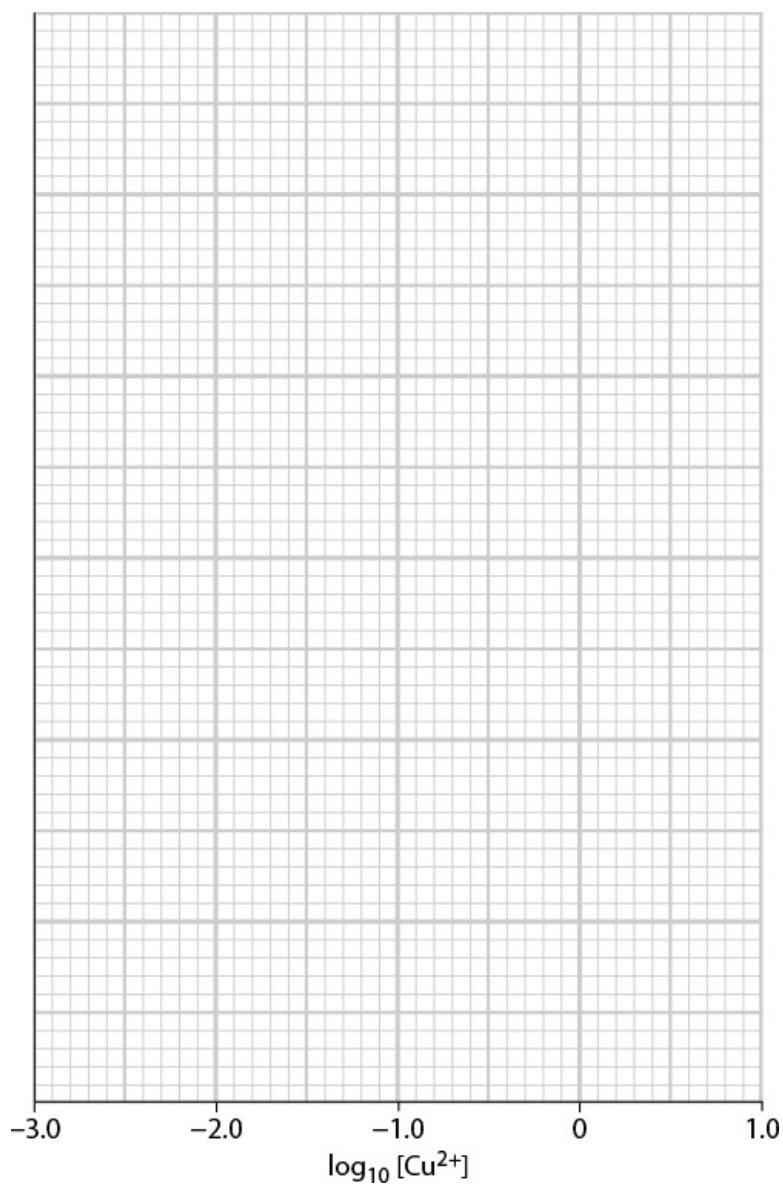

Figure 12.3: A graph of E_{cell} against $\log_{10} [\text{Cu}^{2+}]$
- b** Use your own results, or the data provided, to plot a graph of E_{cell} against $\log_{10} [\text{Cu}^{2+}]$ using the labelled grid provided (Figure 12.3).